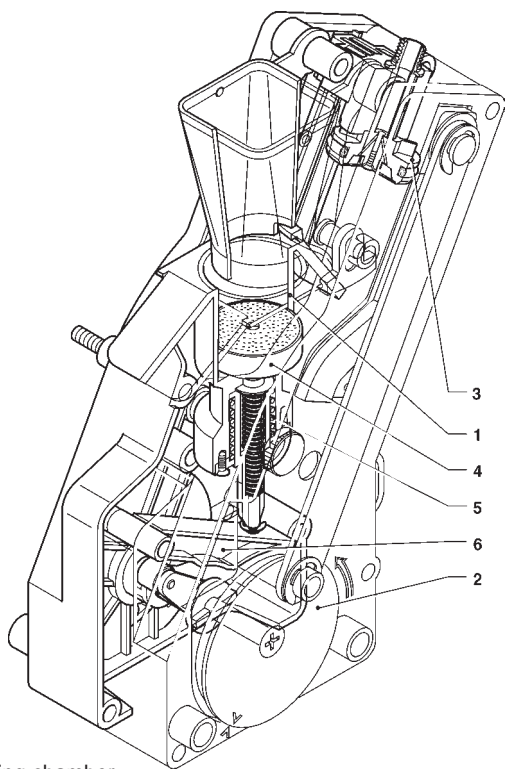

Fig. 19
When making a coffee selection, during the coffee grinder operation the unit rotates 180° to bring the brewing chamber into a vertical position (see Fig. 19).
The coffee falls into the vertical brewing chamber (1) (see Fig. 19).